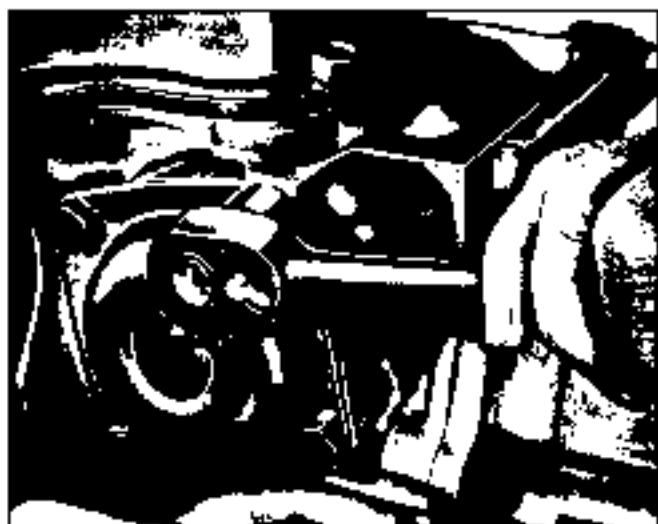

Fig. 7E-12 Removing Governor Cover Attaching Screws
6. Remove the strainer retainer bolt (Fig. 7E-15).